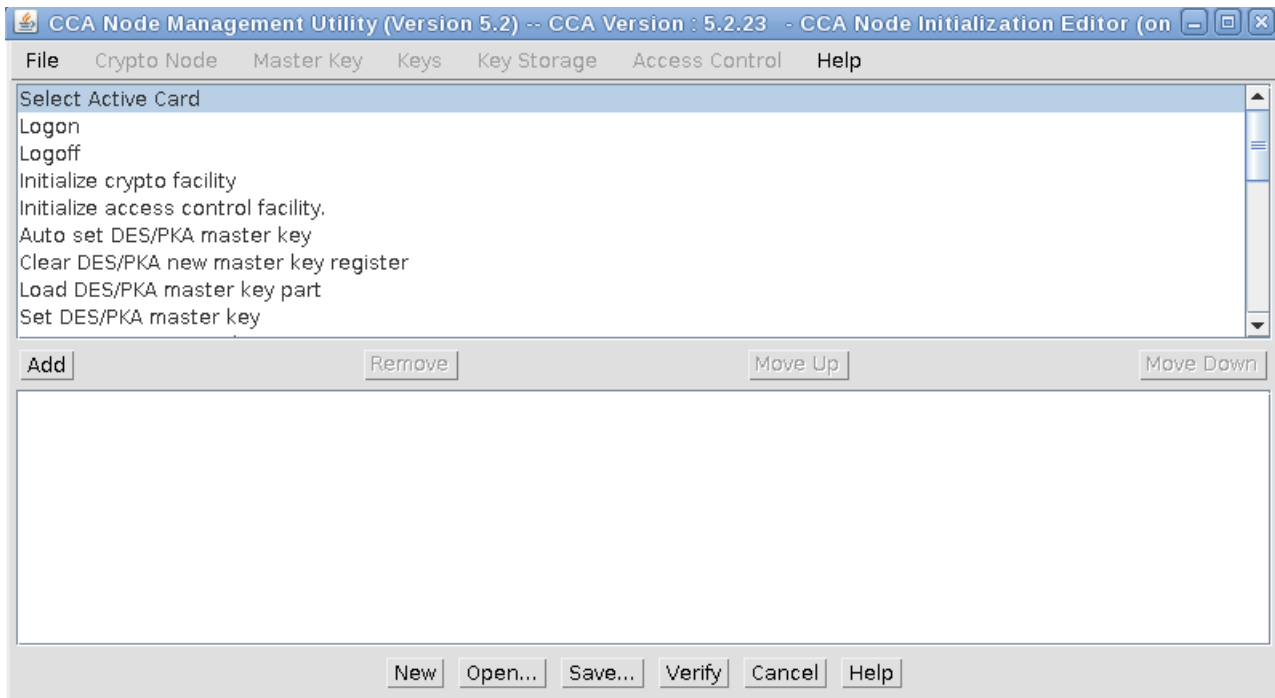

Figure 6. CCA Node Initialization Editor window
3. From the **File** menu, click **CNI Editor**. The CCA Node Initialization Editor window displays as shown in Figure 6.